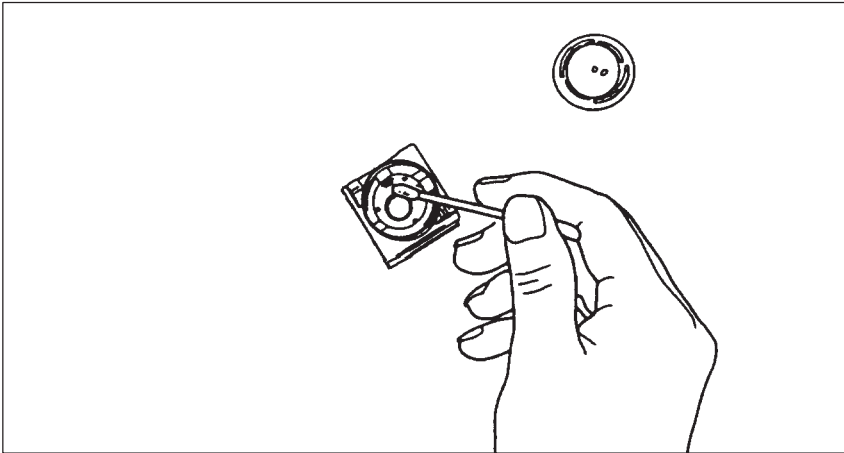

Figure 2-12 Cleaning the Trackball Housing
5. Clean the trackball housing (Figure 2-12).